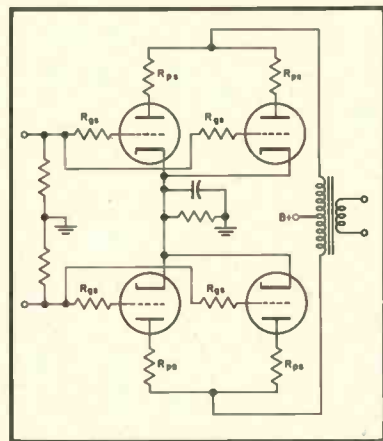

Fig. 12-4. Push-pull-parallel circuit, including grid and plate stopping resistors R_{gs} and R_{ps} respectively.
The power capability of a given push-pull stage may be doubled by connecting additional tubes in parallel with the original output tubes, as in Fig. 12-4. This connection halves the required value of the load impedance and of the cathode bias resistor, if the latter is used. The output voltage remains the same, as in the case of batteries connected in parallel, but since the load impedance is halved the output power is doubled. It will be seen later that when the output requirement is increased signal voltage, additional stages are connected in cascade rather than in parallel, like the series connections of batteries designed for higher voltage.
1. The use of "stopping" resistors in the grid and plate circuits, as shown in Fig. 12-4, wired close to the socket pins. Typical values are 500 ohms for the grid resistors, and 50 ohms for the plate resistors.